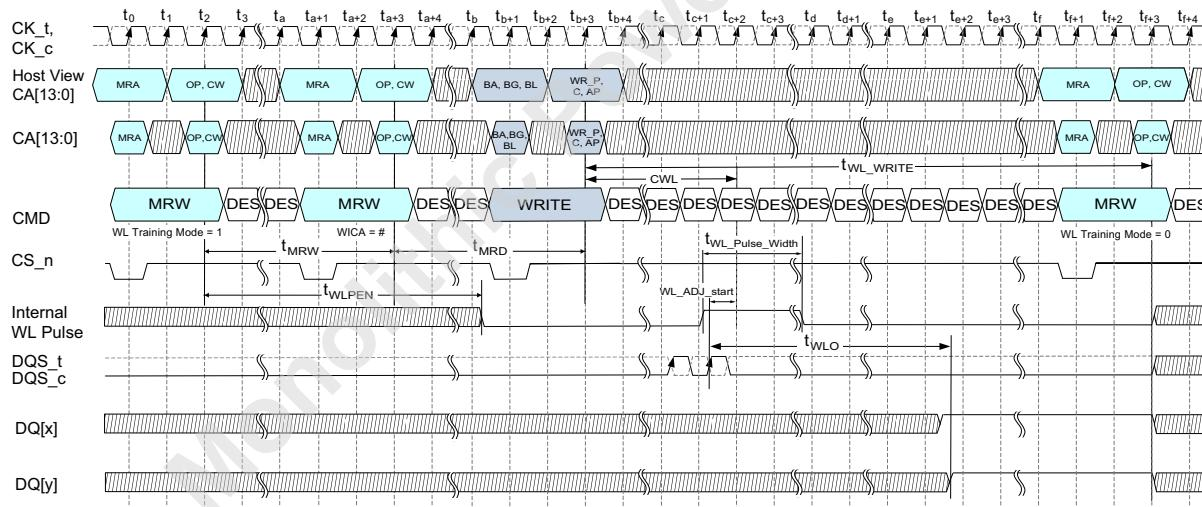
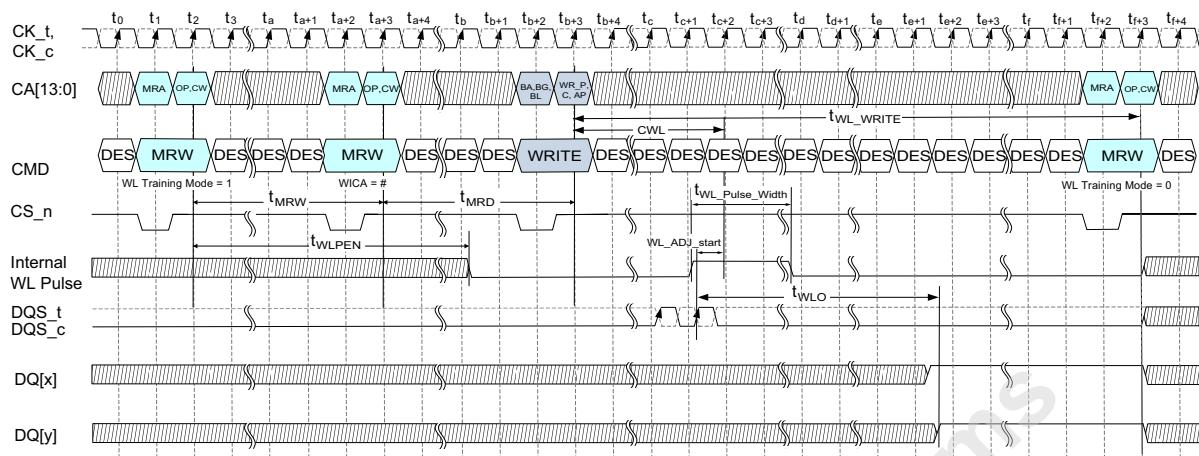

Figure 107 — Write Leveling Training Mode Timing Diagram
Figure 108 — Write Leveling Training Mode Timing Diagram
**Figure 107** and **Figure 108** timing diagrams demonstrate Write Leveling Training operation when Internal Write Timings are enabled and the Internal Cycle Alignment is set such that the Internal Write Leveling Pulse has completed the coarse alignment to the host DQS timing.